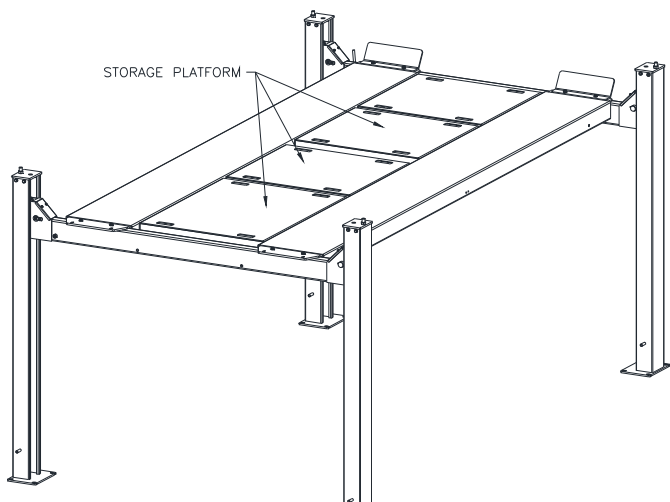

Fig 25 – Storage Platform
- 1) Up to four Storage Platforms can be placed between the runways, **Fig 25**.